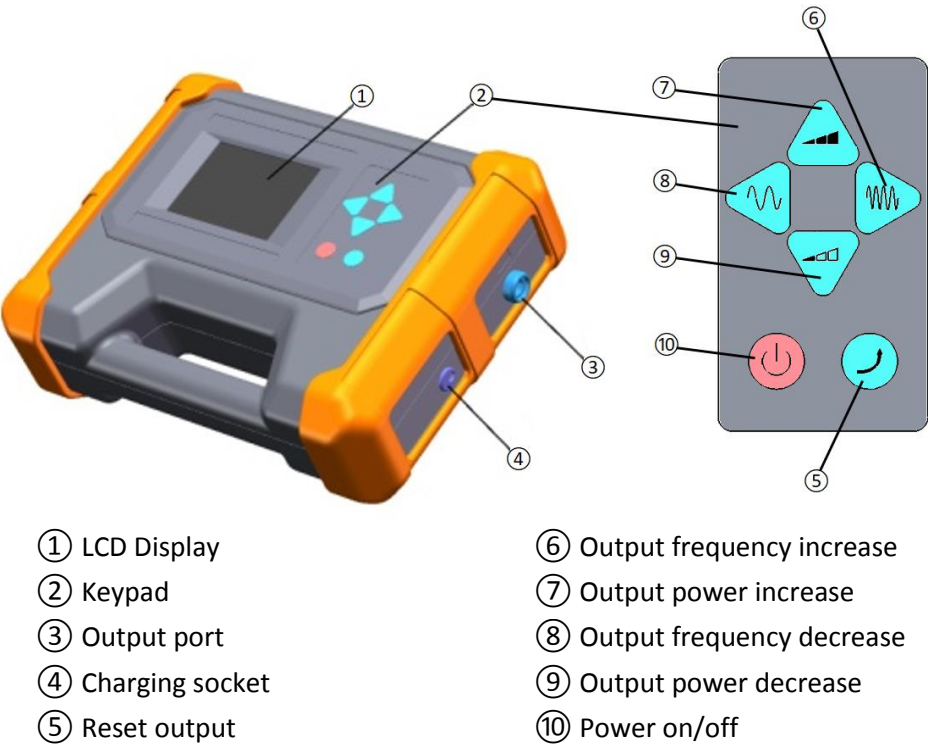
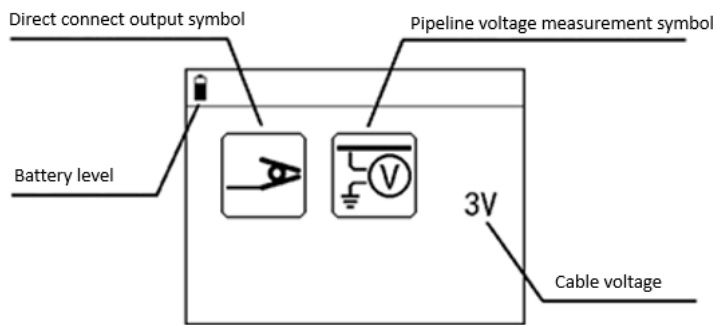
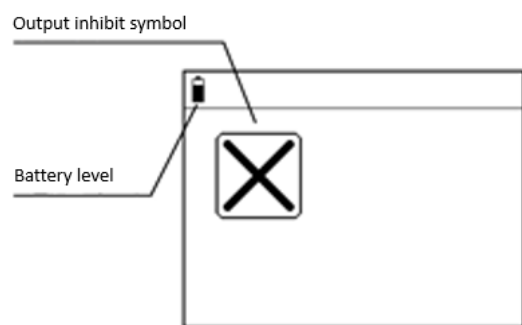

Figure 2.2 Transmitter overview
Figure 3.3a Direct connection mode cable voltage measurement
Figure 3.3b Direct connection mode no cable detected
Step 3: After completing the wiring, press and hold the power button (Figure 2.2 ⑩) to turn on the transmitter. The transmitter automatically detects the cable and confirms the direct connection mode. In this mode, the voltage of the cable will be measured first - the screen is shown in Figure 3.3a. If the output cable is not detected, the screen appears as Figure 3.3b.
If the receiver signal continues to be unstable, the reset output button (Figure 2.2 item ⑤) can be used to reset the device and re-apply the signal.